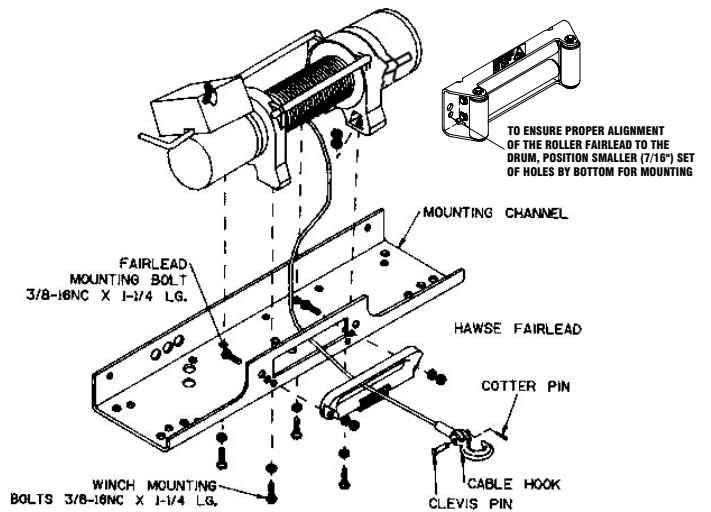

FIGURE 5
Attach fairlead to channel using hardware furnished with winch (see FIGURE 5). Attach winch to channel. Place (4) flat washers and nuts into pockets of winch mounting feet and thread capscrews with lock washers through mounting holes in channel and into hardware in winch feet.
Place end of drum cable through fairlead and attach cable hook. Use clevis pin and cotter pin (see FIGURE 5).